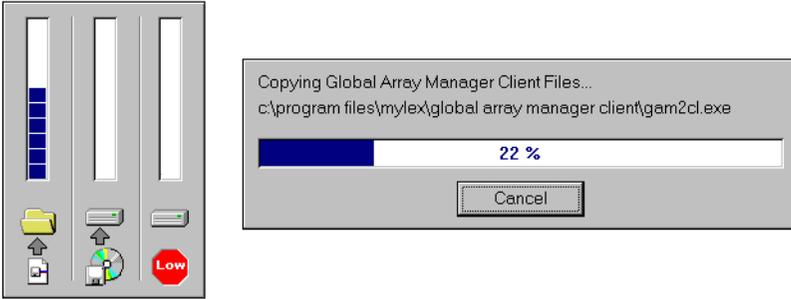

Figure 2-10. Installation Progress Display
3. During installation, files are decompressed and copied from the installation CD-ROM to the destination folder (Figure 2-10).